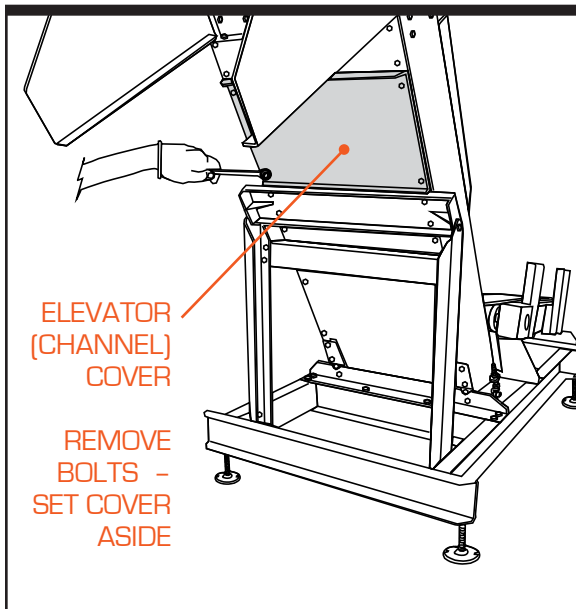
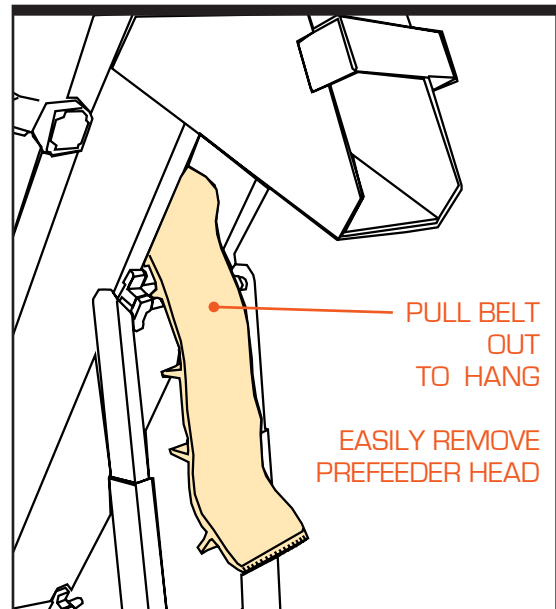
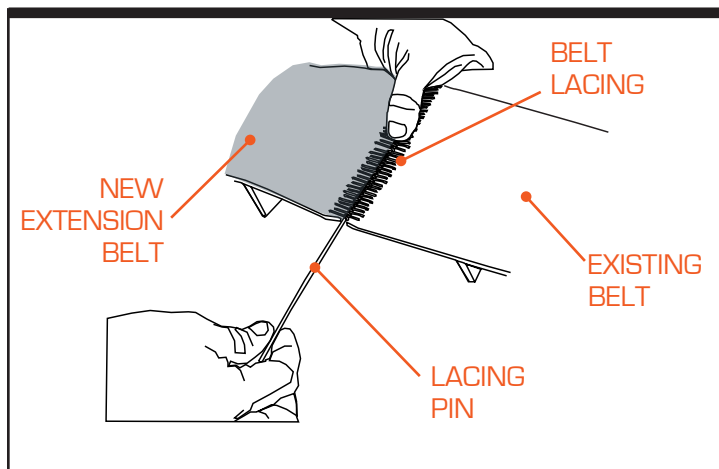

Figure 3-5. Remove Elevator Cover
Figure 3-6. Pull Belt Out to Remove Head
Figure 3-10. Attach New Belt Extension to Existing Belt
**Step 3—Remove Channel Cover.** Located on the underside of the prefeeder's elevator is a cover over the belt return (Figure 3-5). Undo the four hex bolts that hold the upper cover plate in place, and set the plate aside. Pull the belt down from the prefeeder's head, and let the belt hang (see Figure 3-6).
**Step 9—Attach New Belt Extension.** Both ends of the new extension belt are laced. Attach one end of the belt extension to the part of the belt hanging out of the prefeeder's channel (Figure 3-6), using the lacing pin to lock both ends together (Figure 3-10).